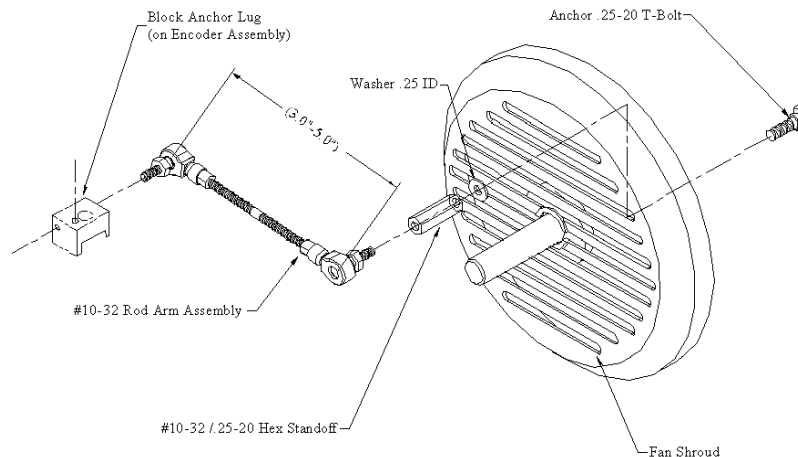

Figure 4: HS56 Anti Rotation Turnbuckle (Motor with Fan Shroud)
| Figure 4: HS56 Anti Rotation Turnbuckle (Motor with Fan Shroud) | 8 |
1. Arrange the anchor T-bolt as shown in Figure 4. Slide the anchor bolt into the fan shroud through an available vent.